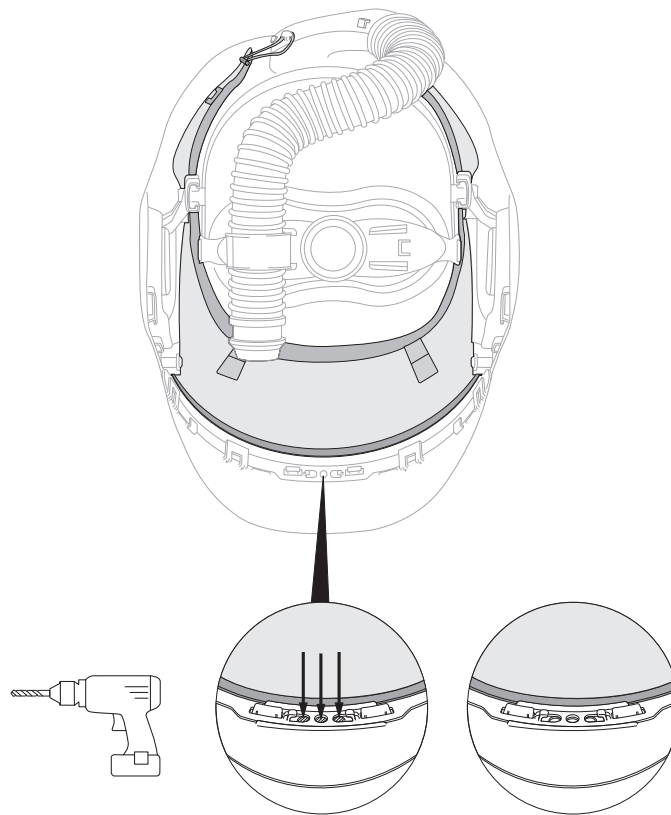

Fig. 31a
- i. Three small 3/16” (5mm) holes must be drilled into the rigid neck cover or the plastic of the fabric or leather neck cover to install the task light. With the neck cover in place, set the welding helmet on a stable surface (accounting for drilling through to that surface) and drill the three holes. Alternately, three small marks may be made, the neck cover removed, the holes drilled and the neck cover replaced (Fig. 31a).